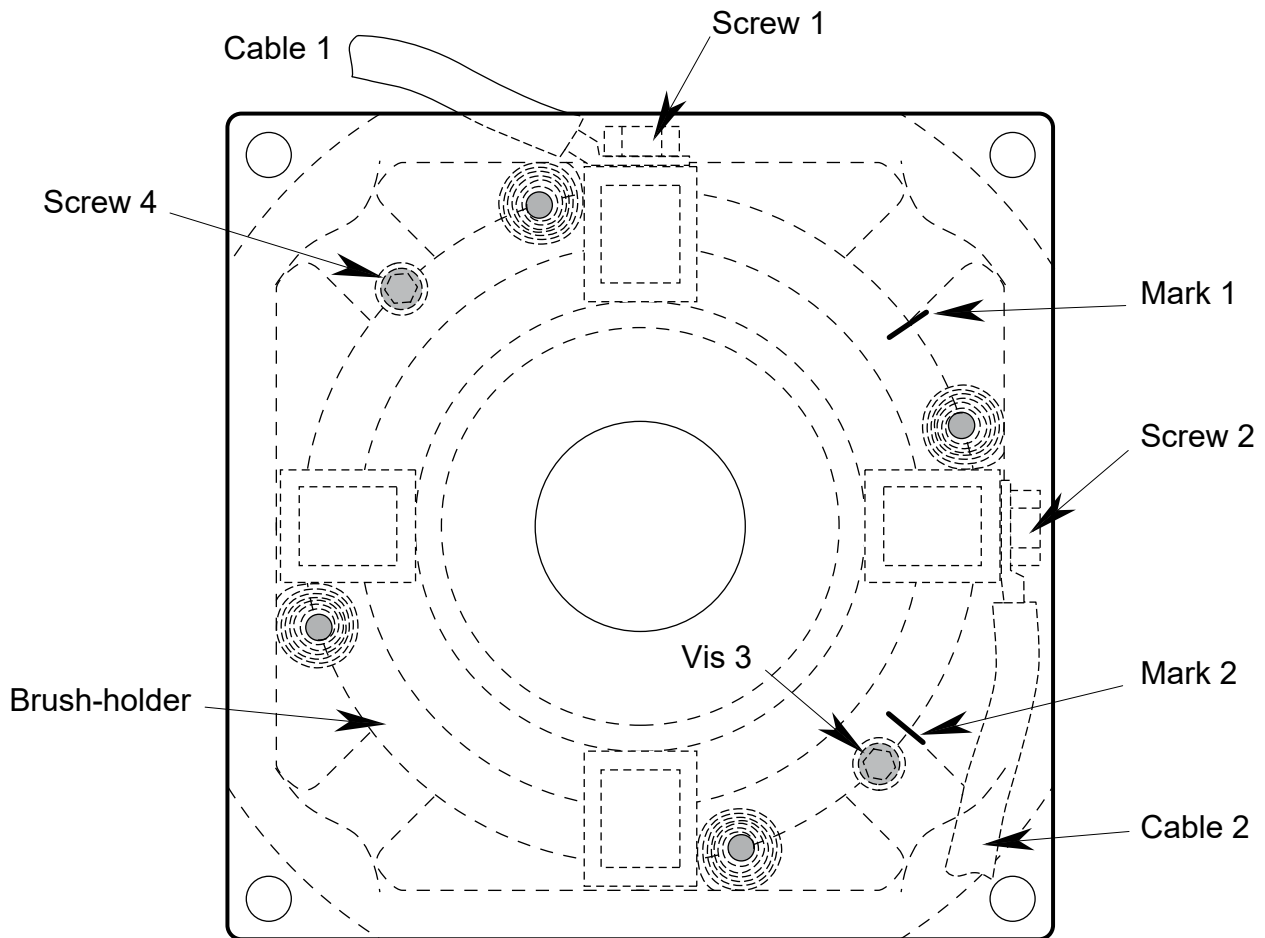

Fig. 10
- Replace the brush-holder (149) on the labels (see figure 10). If the armature is being replaced the adjustment to neutral position must be checked (see section 6 of manual 5702).
2. If the motor is force cooled (FV) on the commutator side, dismantle the FV (LSK 1124 to 1604) and the inspection doors B, D or A.
3. Two labels (counter-sunk on the brush-holder) locate the brush-holder in relation to the flange (see fig. 10). These two labels should be set opposite an inspection door B, D or A.